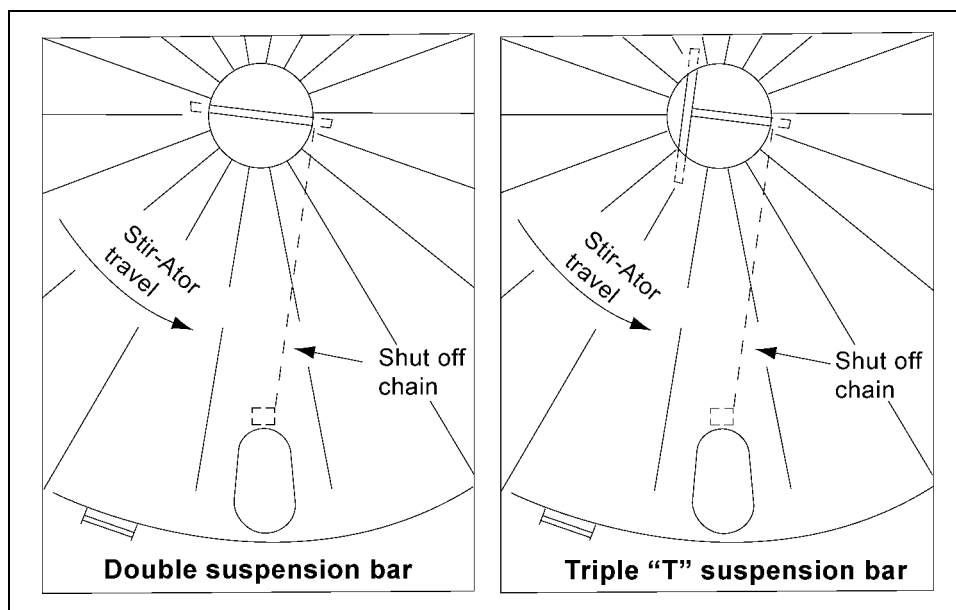
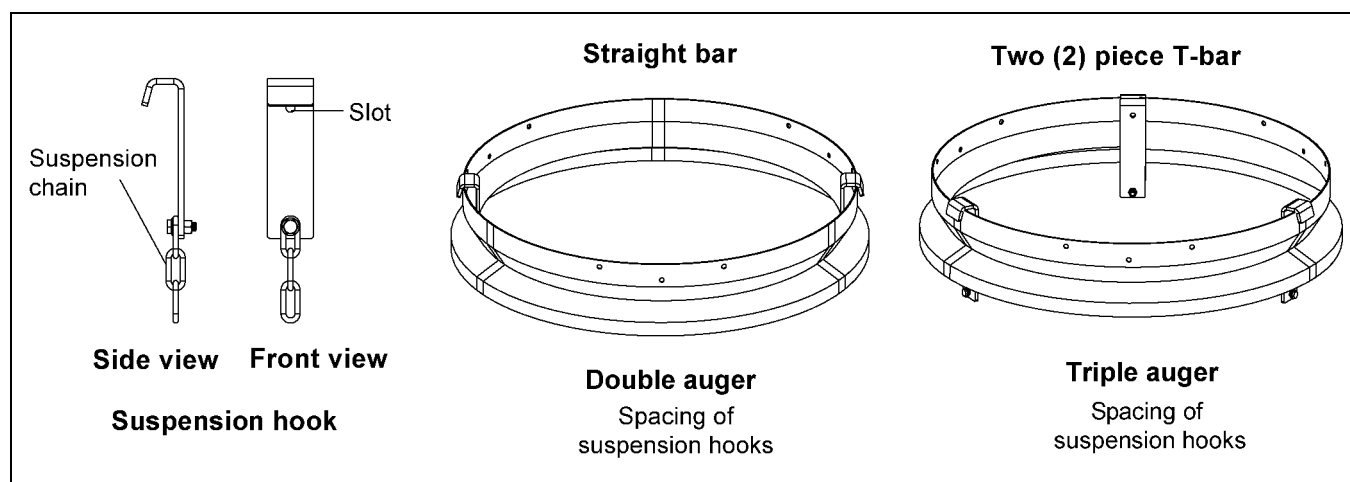
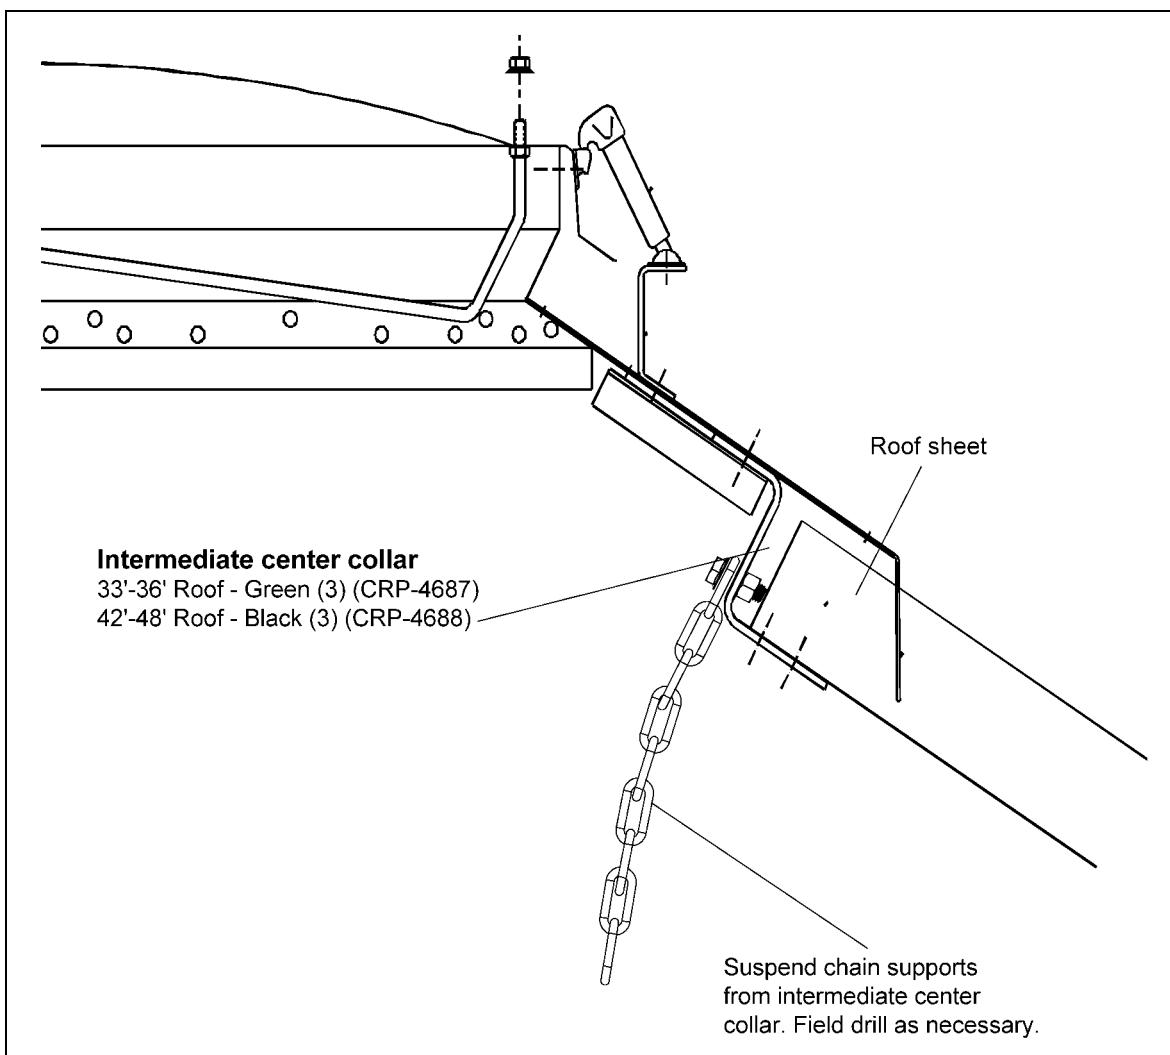

Figure 4F Viewed from Top of Bin
Figure 4G
Figure 4H
7. Is the suspension bar positioned so that the bin "S" hook, to which the shut off chain is attached, is at a right angle to the switch box chain, as shown in Figure 4F on Page 18. THE POWER CORD MUST HAVE MORE SLACK THAN THE SHUT OFF CHAIN or the power cord could be torn out of the switch box if the Design III should malfunction and engage the shut off.
1. The bin roof is then assembled and the suspension chains are dropped through the fill-hole. **Two (2) chains are used on the double auger units and three (3) chains are used on the triple auger units.** Space the suspension hooks equally apart around the center fill-hole collar, placing them in reference to the manhole where the shut off switch box is to be located. Place chains through the hole and then slide the chain down into the slot. (See Figure 4F and Figure 4G.) A hole in the suspension hooks is provided if bolting the hooks in position is desired. **NOTE: For GSI bins larger than 33' diameter an alternate method of mounting is to attach suspension chain to intermediate center collar.** (See Figure 4H on Page 19.)